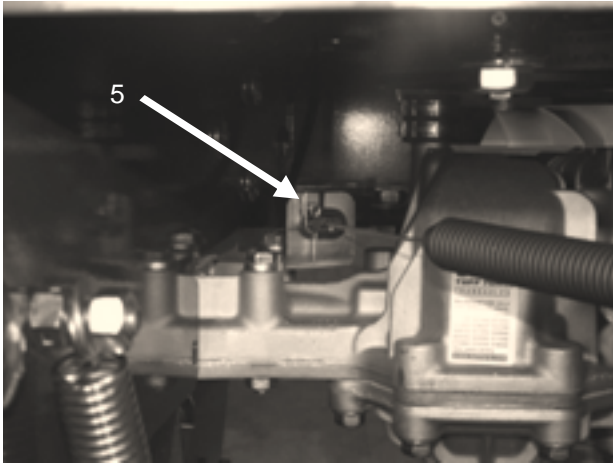

Figure 52
5. Remove cotter pin and release cable from bracket **Figure 52**.